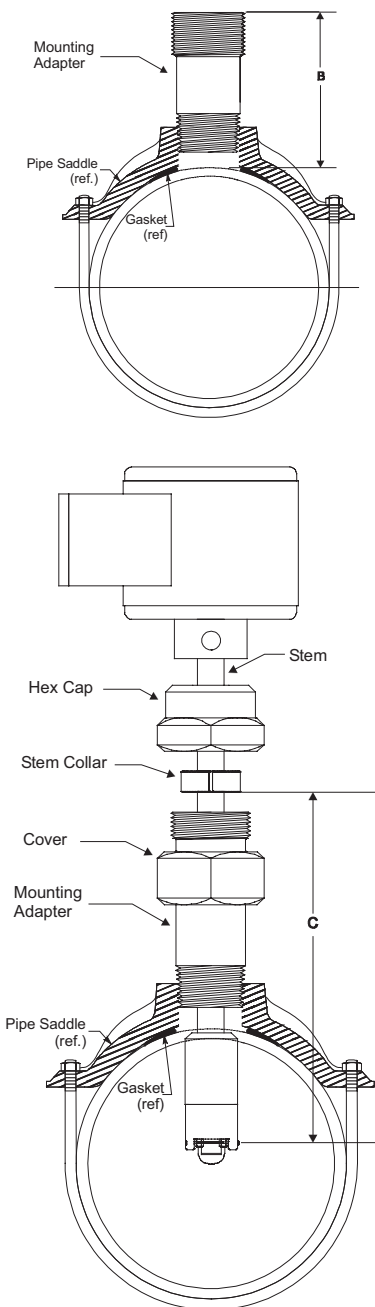

Figure 5: Dimensions "B" and "C"
- b. Next, measure from the outside wall of the pipe to the top of the installed mounting adapter. This is dimension "B" in Figure 5.
- c. Add this number to the reference measurement. The resulting number is dimension "C" in Figure 5.
- b. Next, measure from the outside wall of the pipe to the top of the installed mounting adapter. This is dimension "B" in Figure 5 on page 9.
- c. Add this number to the reference measurement. The resulting number is dimension "C" in Figure 5 on page 9